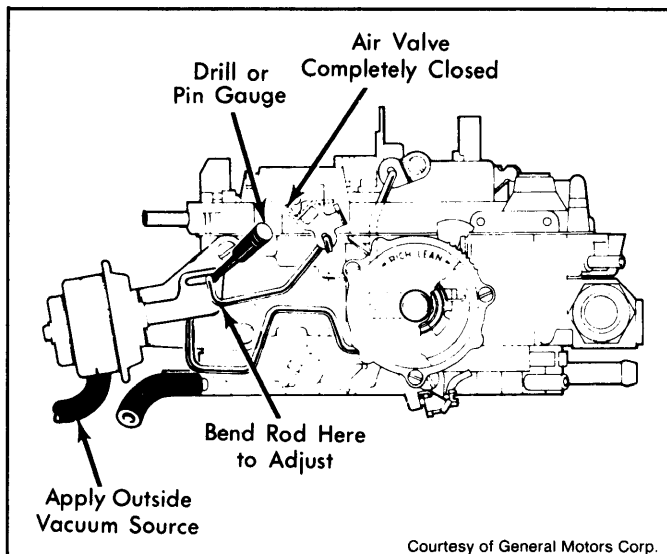

Fig. 7: Adjusting Rear Air Valve Rod
- Rear** - Using an outside vacuum source, seat secondary (rear) choke vacuum break diaphragm. See Fig. 7. Make sure air valve is completely closed. Insert a .015" drill or pin gauge between rod and end of slot in lever. Bend rod at point shown to adjust clearance in slot. Reconnect vacuum hose to diaphragm.